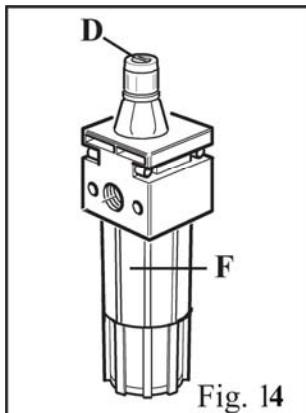

Fig. 14
- Check the oil level in the lubricator tank. If necessary, fill up by unscrewing the reservoir F. Only use ISO VG viscosity ISOHG class oil for compressed air circuit. (Fig. 14)
- Check that a drop of oil is injected into the reservoir F very 3-4 times the pedal U is pressed down. If not, regulate using the screw D (fig. 14)